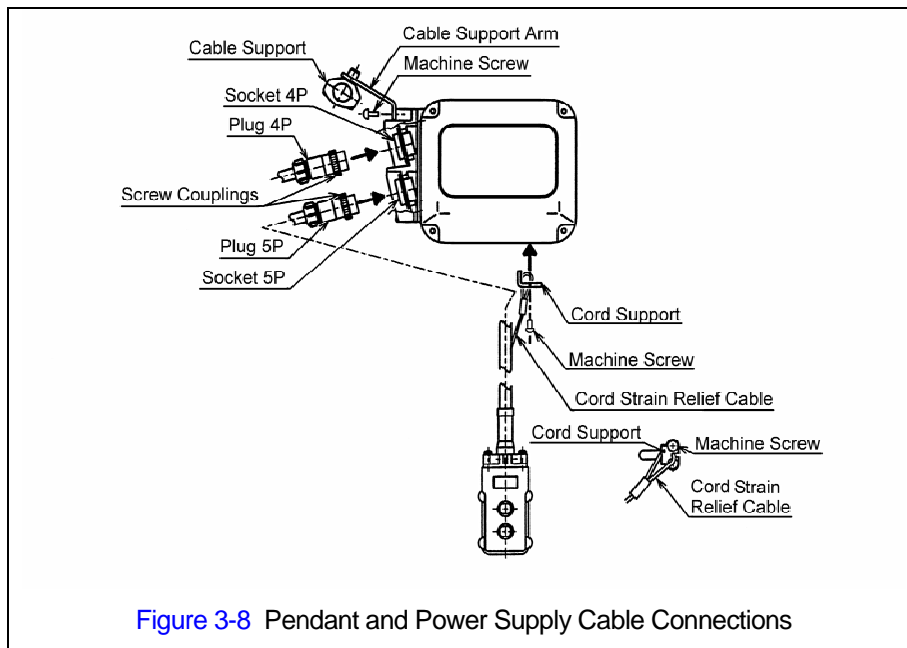

Figure 3-8 Pendant and Power Supply Cable Connections
- Refer to Figure 3-8.
- For a manual trolley the guide wire should be positioned slightly outside the hoist's Cable Support as shown in Figure 3-8.